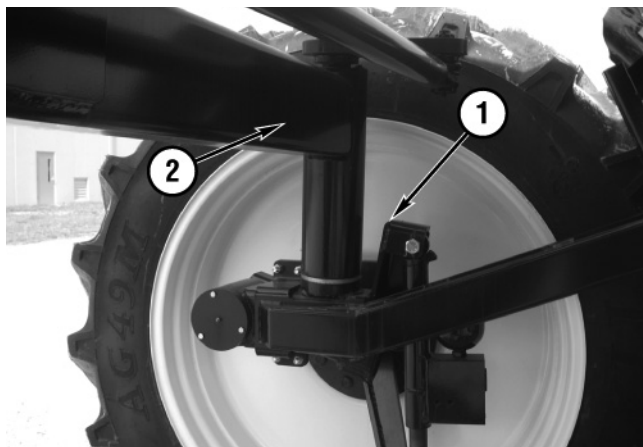

Figure 5-62
5. Once the toe-in is set, turn the wheels all the way to the left and measure the distance between the left strut tower (**Figure 5-62, 1**) and the axle tube (**Figure 5-62, 2**).
NOTE: The right front wheel is shown prior to turning the wheels (**Figure 5-62**).